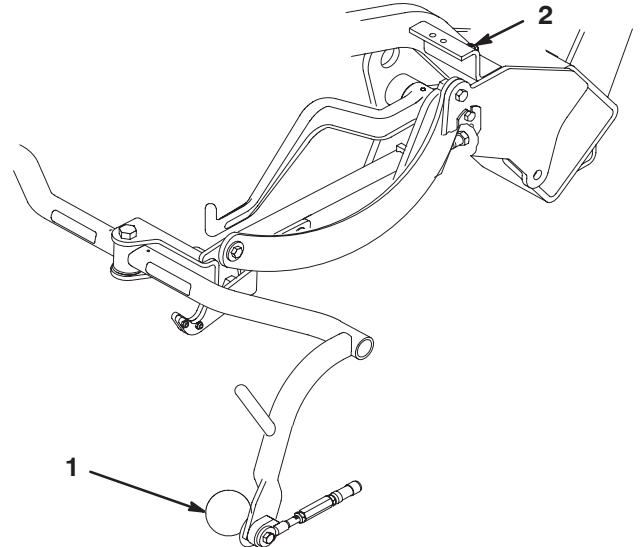

Figure 10
3. If an adjustment is required, loosen the jam nut on the carrier frame stop screw (Fig. 10) and rotate the screw up or down to raise or lower the carrier frame. Tighten the jam nut after adjustment is attained.